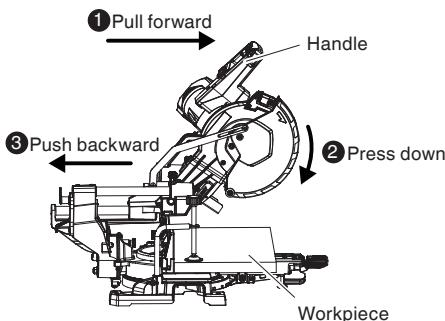

Fig. 27
Then press down on the handle and slide the saw blade backward to cut the workpiece as indicated in Fig. 27. This facilitates cutting of workpieces of up to 3-1/2" (89 mm) in height and 11-1/2" (292 mm) in width.
- * For slide cutting, follow the procedures indicated above in Fig. 27. Forward slide cutting (toward the operator) is very dangerous because the saw blade could kick upward from the workpiece. Therefore, always slide the handle away from the operator.